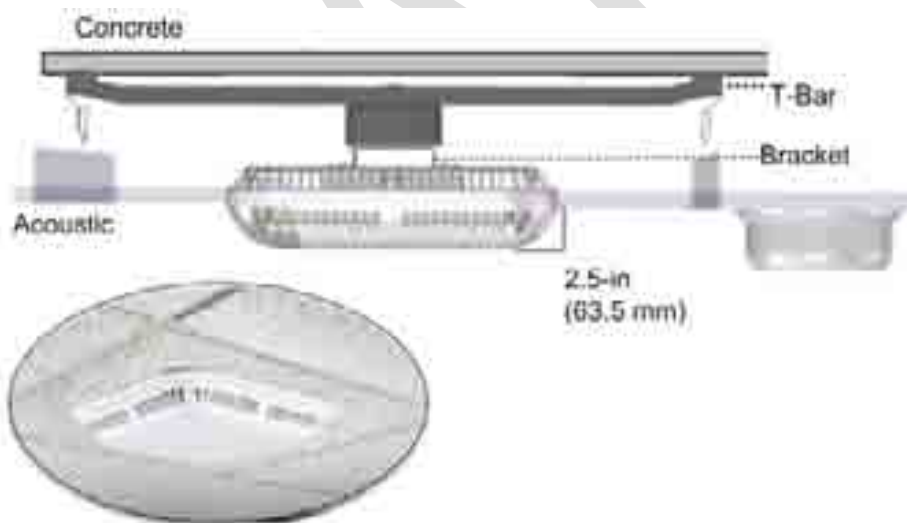

Figure 5-70. Mid-Mount Acoustic Ceiling Installation
- Mid-Mount – 2.5 in (63.5 mm) between ceiling and lowest part of RAU (shown in Figure 5-70)